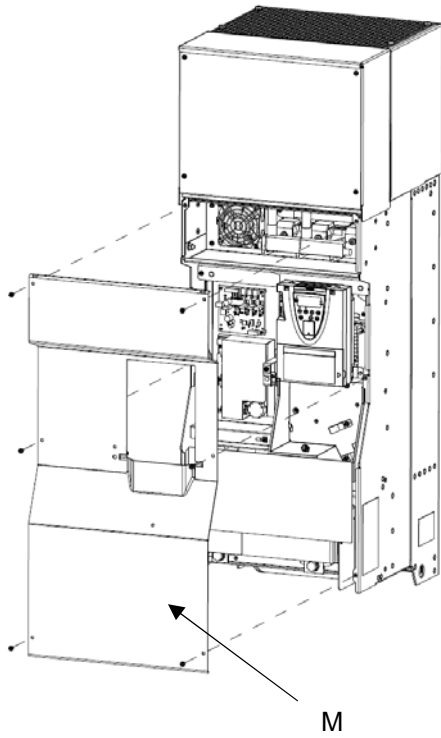

Figure 10
- Step2: Remove the front cover (M) from the inverter. See figure 10.